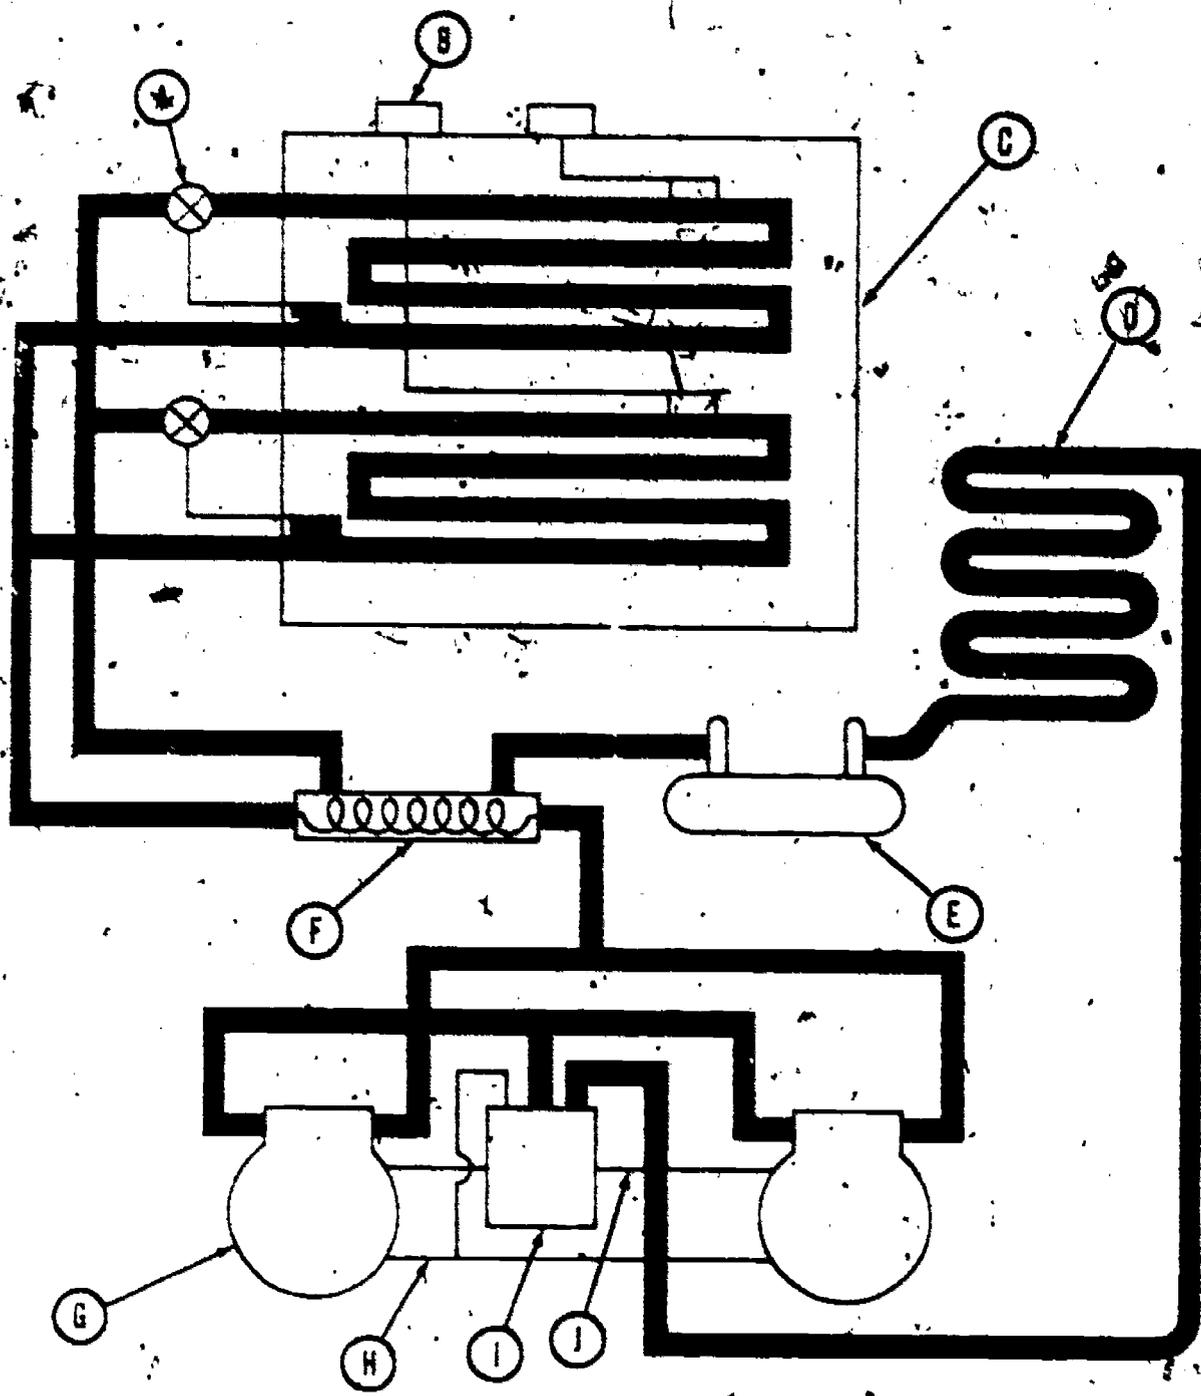

Figure 7. Multiple Compressor System Piped in Parallel
1. Use the multiple compressor system schematic in figure 7.